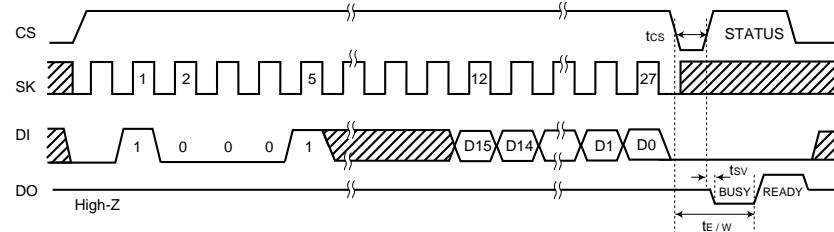

Fig.13 Write all address cycle timing (WRAL)
(7) All address write (Fig.13)